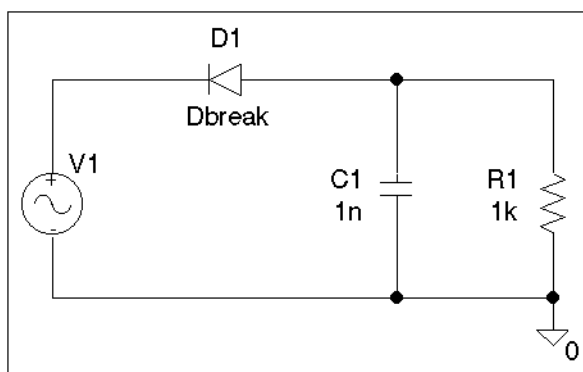

Figure 4-5 Design for a half-wave rectifier.
3. Place one each of the following parts (reference designator shown in parentheses) as shown in Figure 4-5 on page 224:
4. From the Wire menu, choose Draw and draw the connections between parts as shown in Figure 4-5 on page 224.